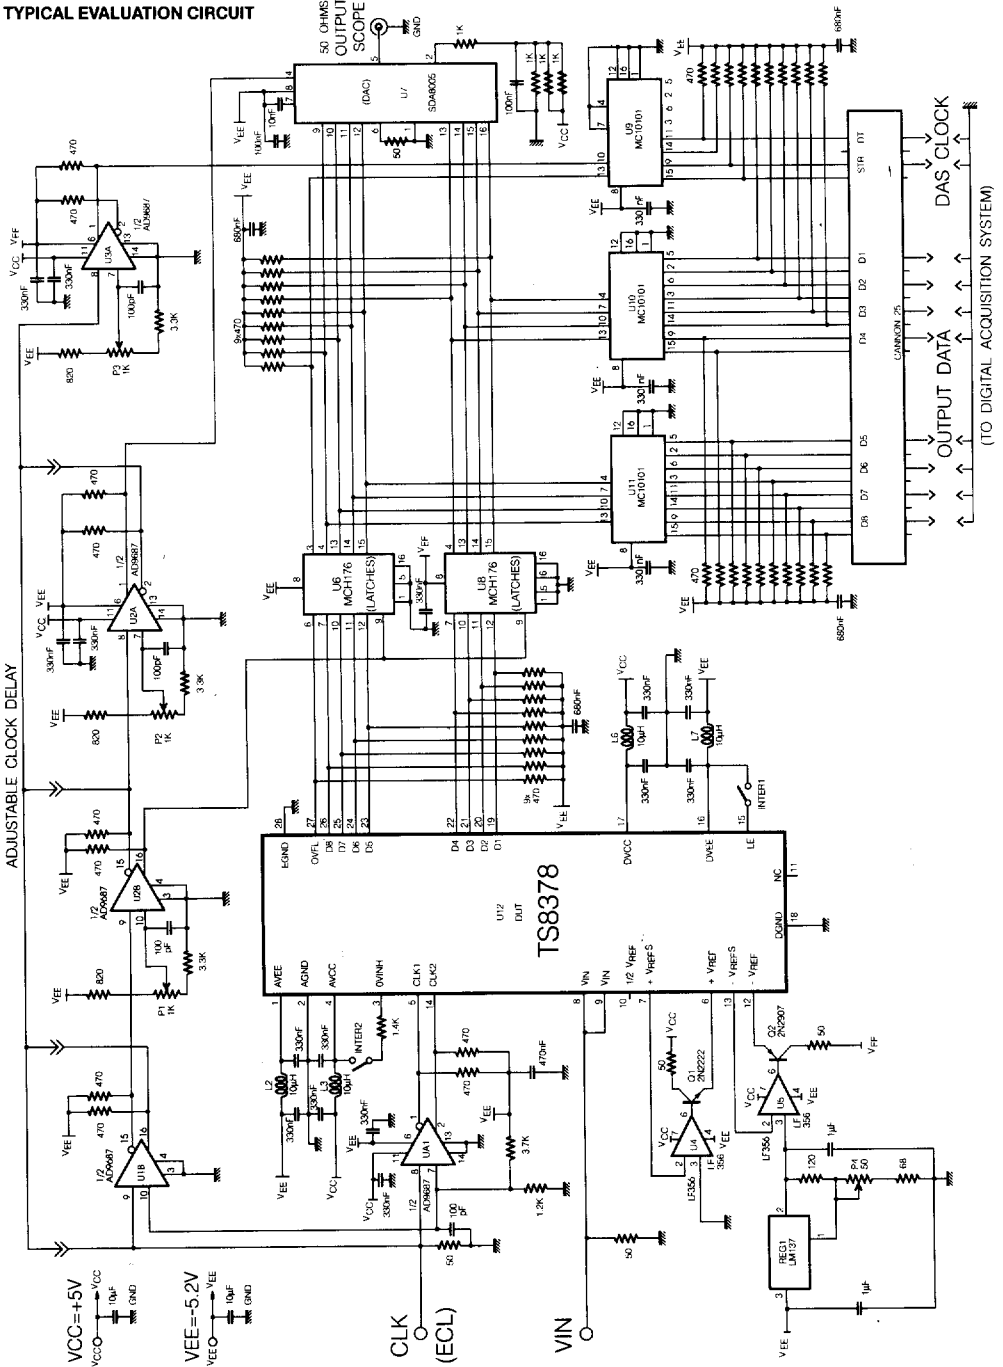

Figure 3
**Note 1 :** When tied to GND (or floating), overflow bit OVFL = HIGH and output bits = LOW when the analog input voltage exceeds +VREFS. If connected to VCC through a resistance, overflow bit OVFL = HIGH and non return to zero feature is activated (typically this pin need a voltage of 4.6 V at 25°C). See Figure 3 for the connection.